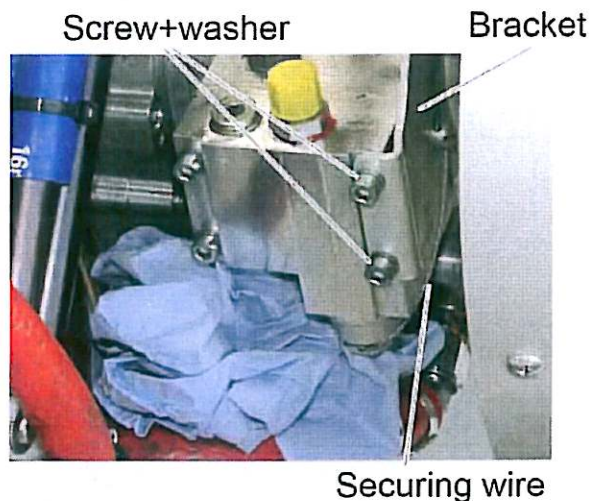

Figure 7
7. *Remove the securing wire and detach the two screws and the two washers from the bracket at the right side of the Constant Speed Unit (CSU) and discard the screws and washers. See Figure 7.*